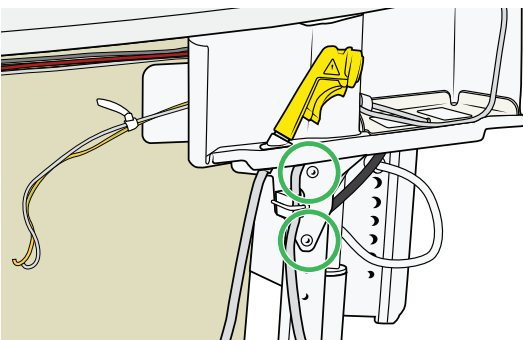

Figure 34
16. Remove the two screws holding the disinfection compartment. See Figure 34.